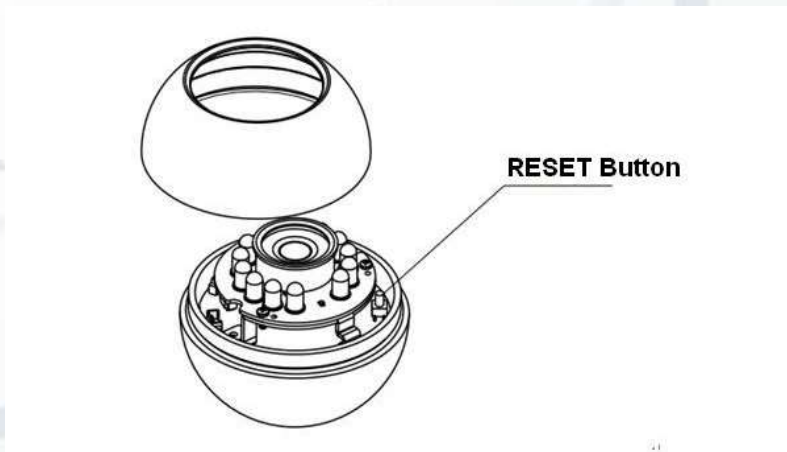

Figure 3-5
**Step3:** Slightly press the RESET button to complete the reset function (see Figure 3-5).